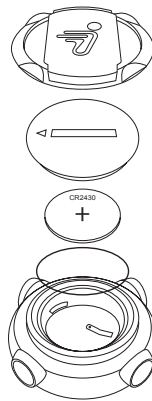

Figure 42. Replacing or Resealing the InfoKey Controller Battery
2. Using a coin or a flathead screwdriver, unscrew the back cover of the InfoKey Controller. See **Figure 42**.